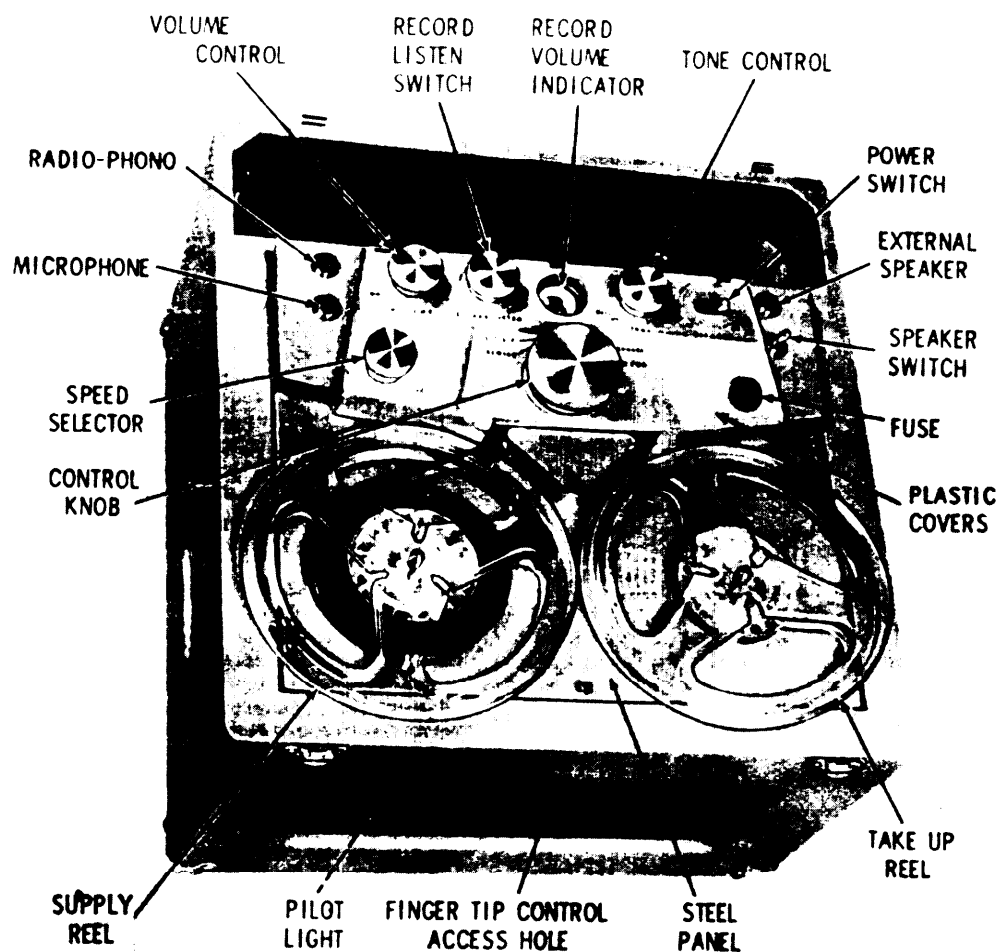

Figure 5. Panel View
(a) Controls, record level indicator, pilot light, and connections extending through the plastic panel (see figure 5):
A hole in the front of the case (see figure 5) allows insertion of the finger tip control rod (207) into a receptacle on the mechanism plate assembly (28). With the pin on the rod pointing up, the rod can be pushed into the receptacle. After the pin is about 1/4 inch in the receptacle, the rod can be turned counterclockwise 90°, engaging the pin in a slot in the receptacle. When the rod is pushed farther into the receptacle, the end of the rod en-